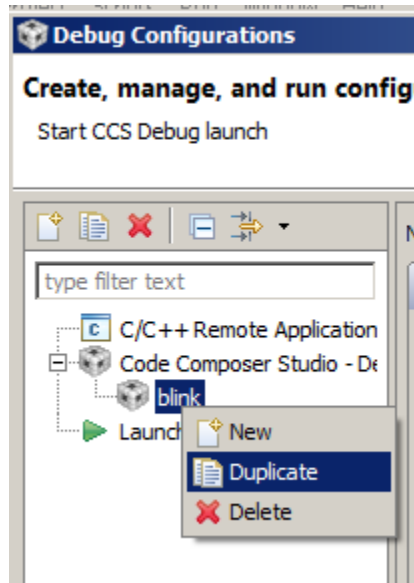

Figure 8. Attach Duplicate
2. Right click the configuration in the panel on the left, and then click "Duplicate" in the popup menu (see Figure 8).